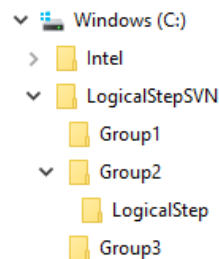

Figure 40: LogicalStep group 2 project folder in file tree for
1. Before you start lab 1 you need to create your project folder. These instructions will demonstrate as if you are group 2 – please ensure you use your proper assigned group number when following these steps. Navigate to “C:\LogicalStepSVN\Group2” and add a folder inside called **exactly** “LogicalStep”. This will be your project folder, anywhere in the manual where it says ‘project folder’ this folder is what it is referring to. Please ensure your file tree looks the same as Figure 40.